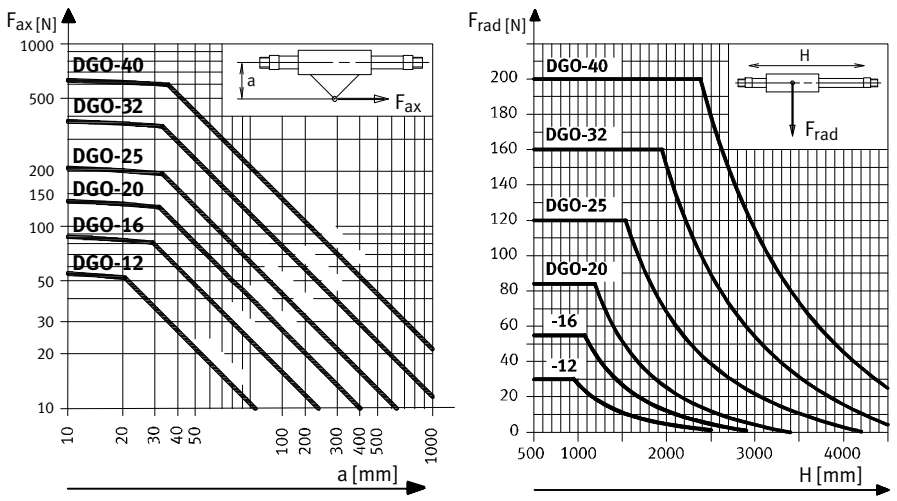

Fig. 8
- Place the work load so that the tilting torque of force  $F_{ax}$  parallel to the movement axis and lever arm “a” remains low (see Fig. 8).
- Observe the maximum values for radial force  $F_{rad}$  (see Fig. 8).